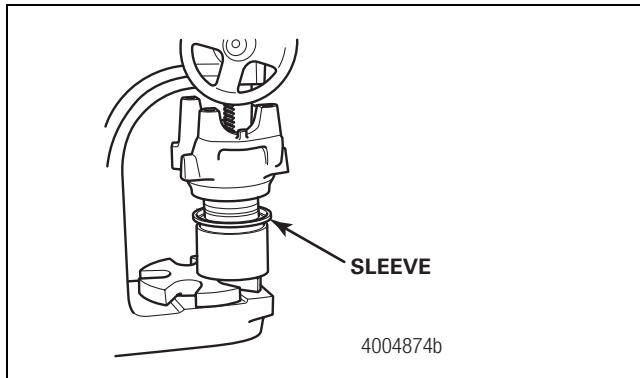

Figure 6.31
5. Apply a light coat of lubricant to the yoke seal journal. Position the sleeve into the yoke sleeve driver. Do not touch the greased areas of the sleeve. The sleeve must be kept clean prior to assembly into the seal. Use an arbor press and the appropriate driver to install the sleeve into the yoke. Verify that the sleeve is fully seated in the yoke to prevent damage to components. Figure 6.31.